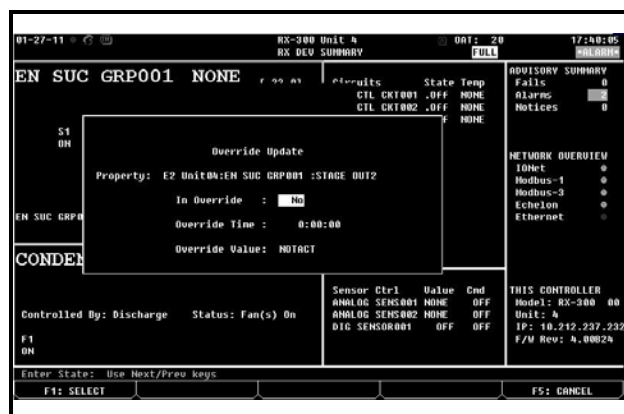

Figure 3-8 - Override Update Screen (RX Version Shown)
2. The Override Update screen appears (see **Figure 3-8**). Press the **Prev** or **Next** to enter **Yes** to place the stage in override. Scroll down one space to enter the **Override Time**.